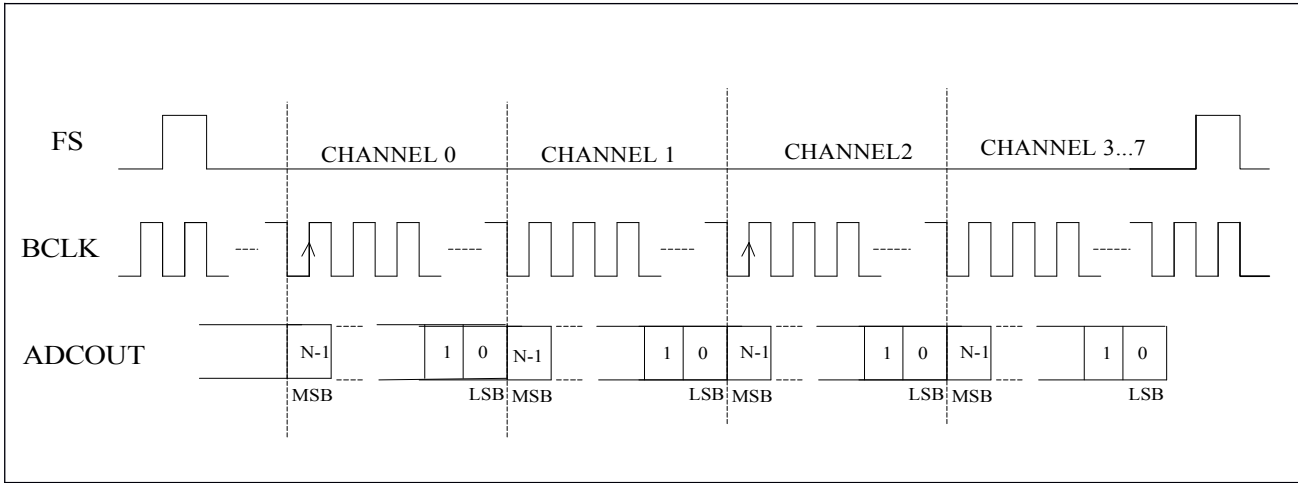

Figure 30 PCM Time Offset Audio Data
Normally, the DAC and ADC data are clocked immediately after the Frame Sync (FS). In this mode, audio data are delayed by a delay count specified in the device control registers. The Channel 0 MSB is clocked on the BCLK rising edge defined by the delay count set in **Error: Reference source not found** **Error: Reference source not found** **REG0XF[9:0]**. The subsequent channel's MSB is clocked on the next BCLK after the LSB of the previous channel. This can be seen in **Figure 30**.